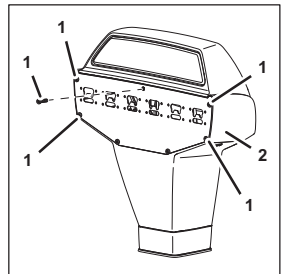

Fig. 34
1. Remove the fastening bolts (Fig. 34/1) of the front panel (Fig. 34/2).
29. Attach the front panel (Fig. 34/2) using the fastening bolts (Fig. 34/1).